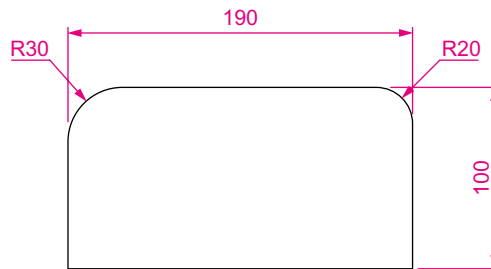

Fig. 6.6 Third example – **Radius** dimension
Third example – Radius Dimension (Fig. 6.6)
4. Continue dimensioning the outline as shown in Fig. 6.6.